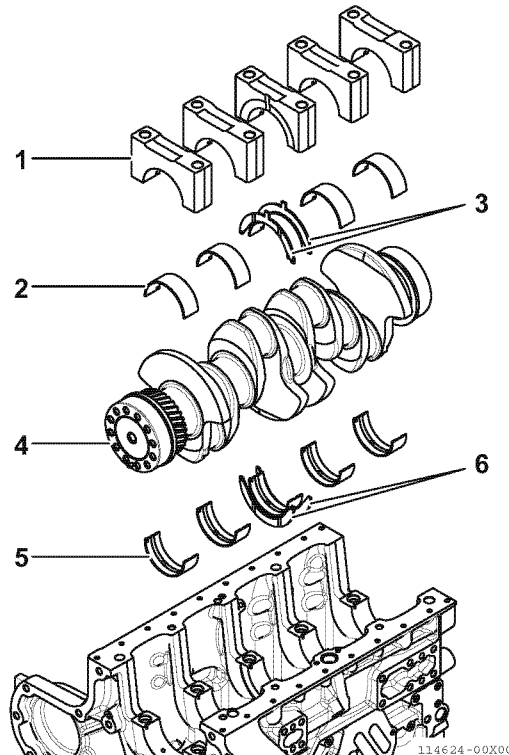

Fig.13-8
1. Remove the bearing cap (1, Fig.13-8), bearing on the oil pan side (2, Fig.13-8), and thrust bearing (3, Fig.13-8). Mark each part so that they can be reinstalled in the same sequence.
2. Remove the crankshaft (4, Fig.13-8). The crankshaft is heavy. Use a crane or other means to hoist it up.
3. Remove the bearing on the piston side (5, Fig.13-8) and thrust bearing (6, Fig.13-8). Mark each part so that they can be reinstalled in the same sequence.